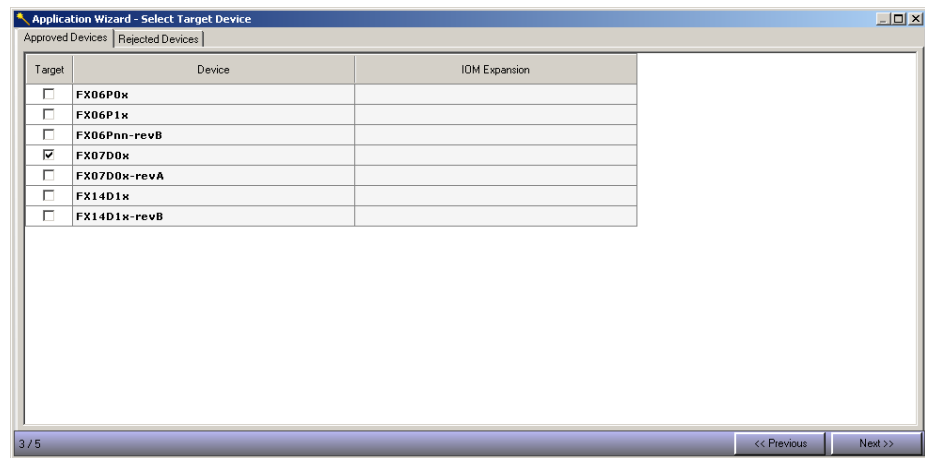

**Figure 46: Choose Interfaces Dialog Box**
- Click Next to select the interface(s) and device I/Os (Figure 46).
The Choose Interfaces (Figure 46) dialog box provides User Interface and Network Protocol options for the target controller based on the application and configuration settings you selected. If you do not see the options you want to use, click Previous to return to the configuration plug-ins and edit the appropriate configuration(s) you made prior to this step.